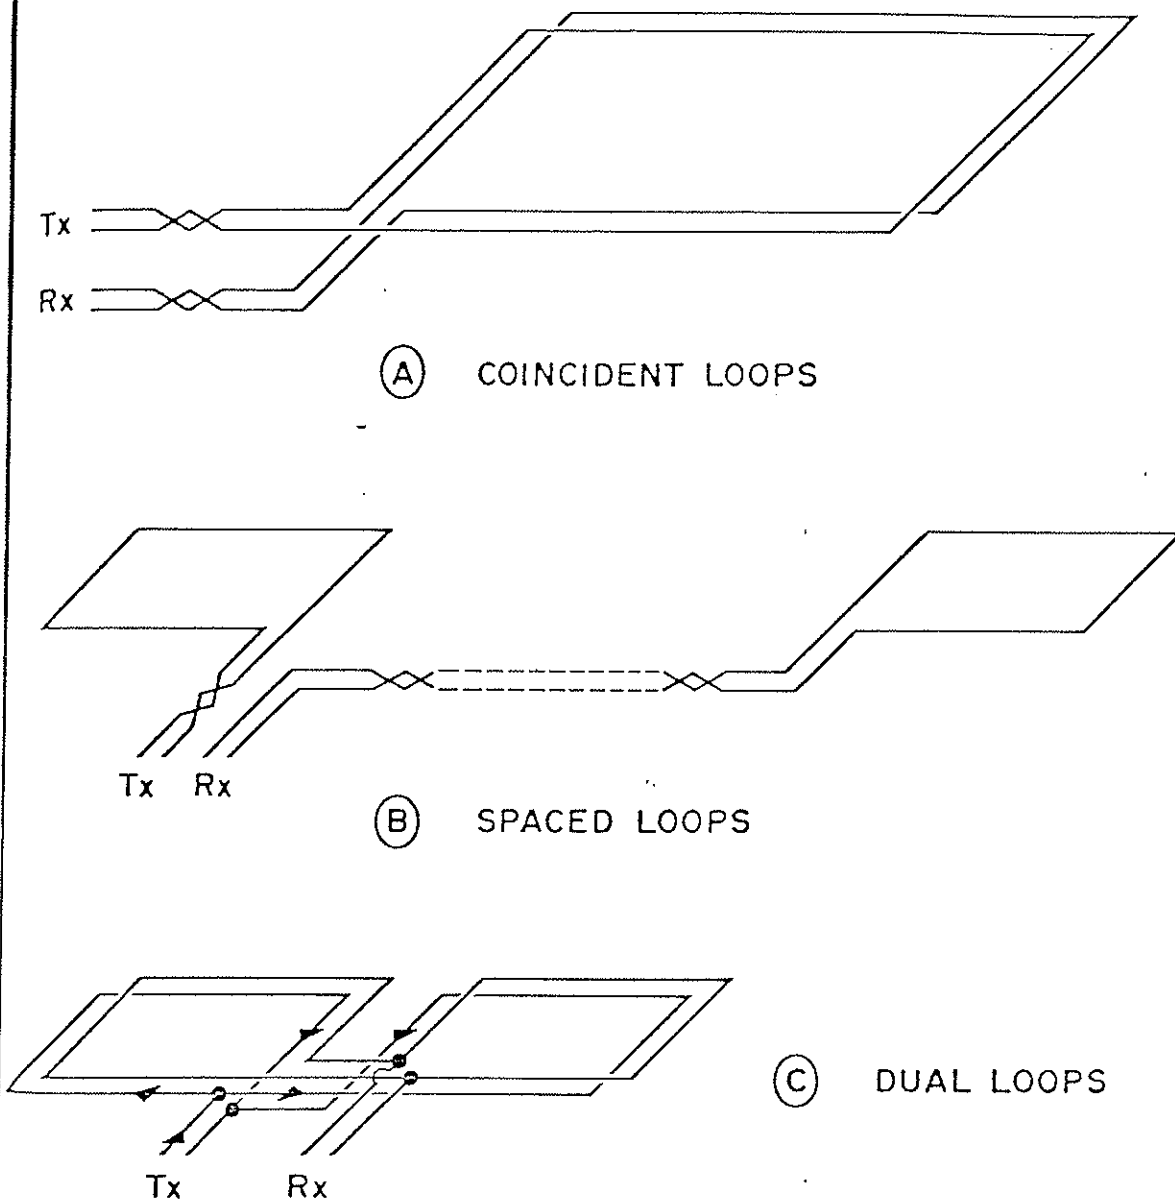

Figure 5.1 Loop Configurations
There are a number of different loop configurations possible for TEM measurements, some being better than others for specific geological situations. SIROTEM is not restricted to any particular configuration. Figure 5.1 illustrates three of the most common loop configurations.
5.2 Coincident Loops (See Figure 5.1 (a))
5.4 Spatially Separated Tx and Rx Loops (See figure 5.1 (b))
In this configuration two loops are adjoined in a figure 8 (see figure 5.1 (c)) so that current flow in the adjacent central wires is in the same direction, producing an especially strong field which is horizontal beneath them. Rx and Tx are spatially coincident.